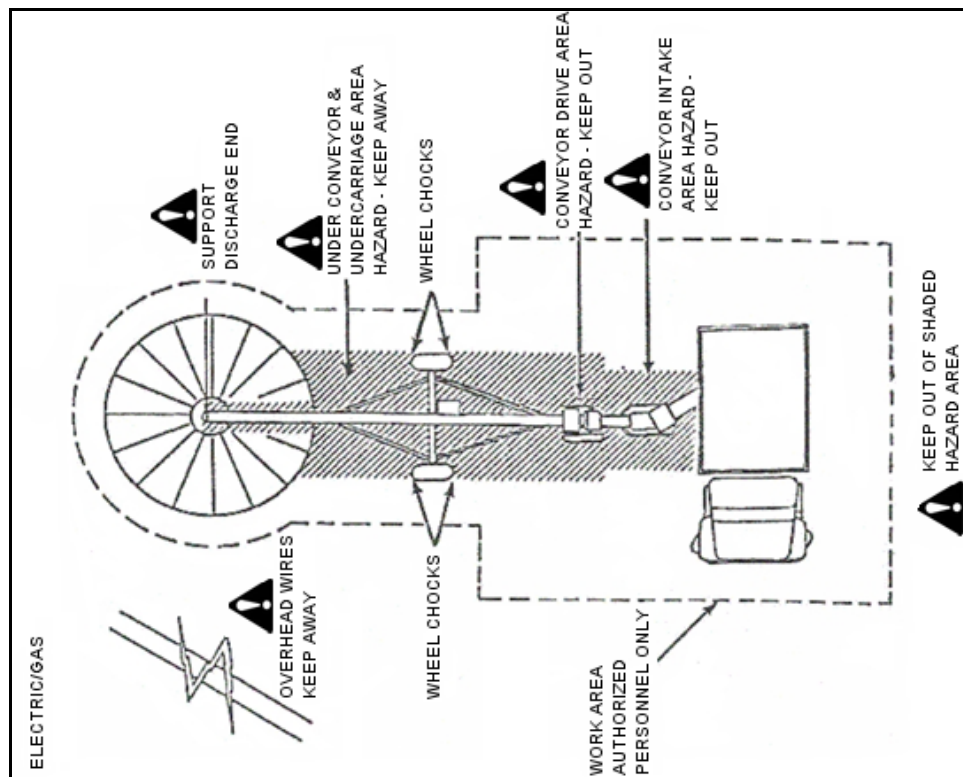

Figure 2.1 Workplace Hazard Area (Electric/Gas Area)
- Be familiar with the machine hazard area shown in Figure 2.1 and 2.2. If anyone enters the hazard area, shut down the machines immediately. Clear the area before restarting.